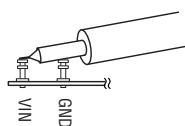

Figure 2. Measuring Input or Output Ripple
**NOTE:** When measuring the input or output voltage ripple, care must be taken to avoid a long ground lead on the oscilloscope probe. Measure the input or output voltage ripple by touching the probe tip directly across the VIN1 or VOUT and GND terminals. See Figure 2 for proper scope probe technique.